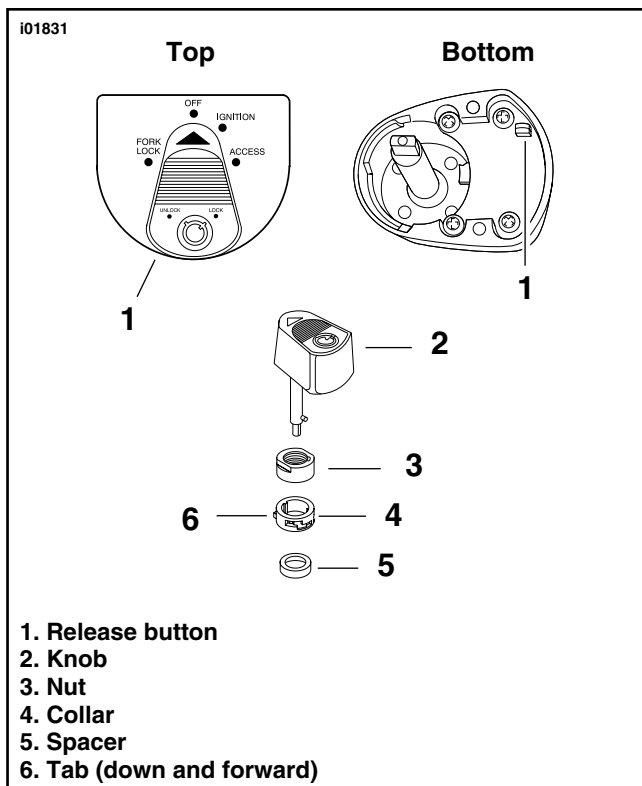
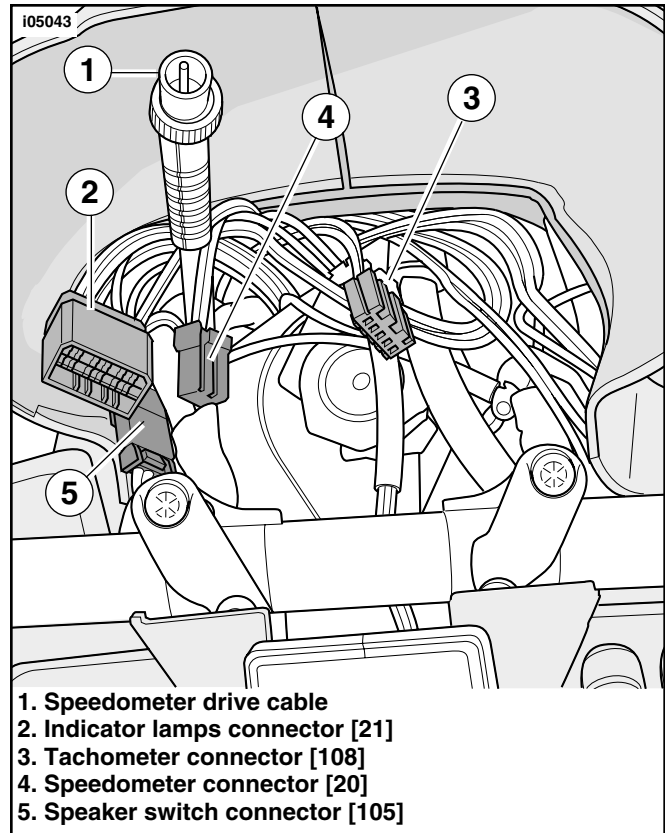

Figure 2. Ignition Switch
Figure 4. Instrument Connectors
5. See Figure 2. Disconnect the mechanical speedometer.
- a. Rotate knurled nut at back of speedometer gauge to release speedometer drive cable (1).
10. See Figure 4. Press button on plug side of speaker switch connector [105] to separate the left side nacelle switches from the jumper harness.
14. Obtain replacement nacelle half (LH) from kit and plug (Part No. 789) for the clutch cable clip hole and plug (Part No. 728) for the odometer reset switch hole.
15. See Figure 2. Plug the clutch cable clip hole (1) and plug the unused odometer reset hole. If necessary, use a circular file to ream the holes in the nacelle and fit the plugs to the holes.
16. Snap switch bracket and switch assembly (4) into molded retainer in nacelle.
17. See Figure 4. Carefully fit left nacelle to motorcycle. Mate speaker switch connector [105] to jumper harness.
19. Using T40 TORX drive head, install two bolts (with flat washers) to fasten instrument nacelle (LH) to fork side. Tighten bolts to 15-20 ft-lbs (20-27 Nm).
23. See Figure 2. Slide spacer (5) over threaded post of ignition switch housing until it contacts switch position plate. Slide collar (4) over post with tab side down (and forward) (6). Install nut (3), and using a 7/8 inch wrench on flats, tighten to 50-70 **in-lbs** (5.7-7.9 Nm).
25. See Figure 4. Mate pin and socket halves of the indicator lamps and instrument connectors to the jumper harness.